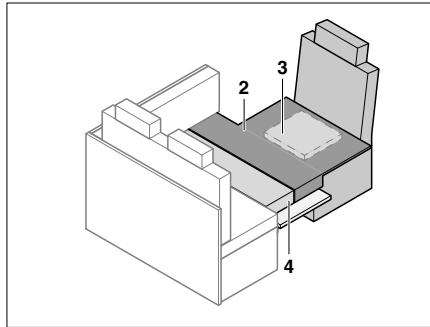

Fig. 189 After conversion
- Lay on the additional cushion as shown in Fig. 189.